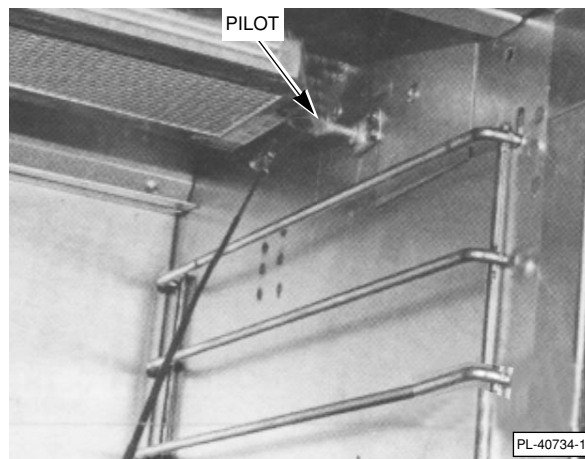

Fig. 10
3. Using a taper, light the pilots (Fig. 10).